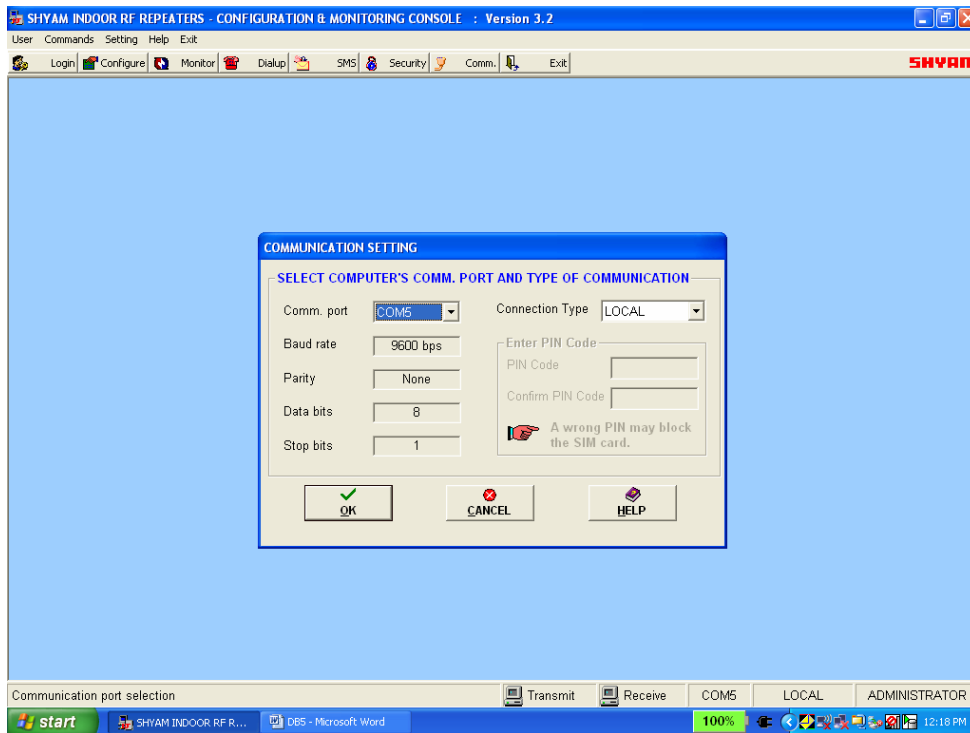

Figure 6: Communication Window
V) Establishing Communication (Figure 6)